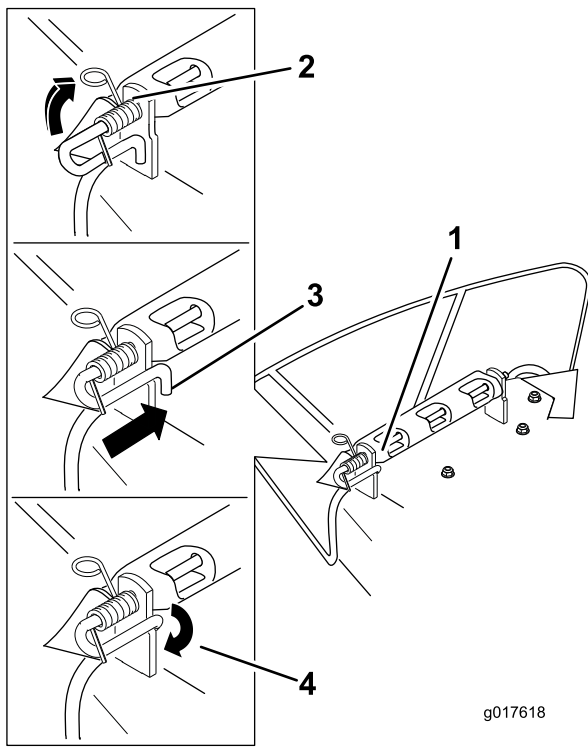

Figure 64
4. Lift the loop end of the spring and place it into the notch on the deflector bracket (Figure 64).
5. Secure the rod and spring assembly by twisting it so the short end of the rod can be placed behind the front bracket welded to the deck (Figure 64).